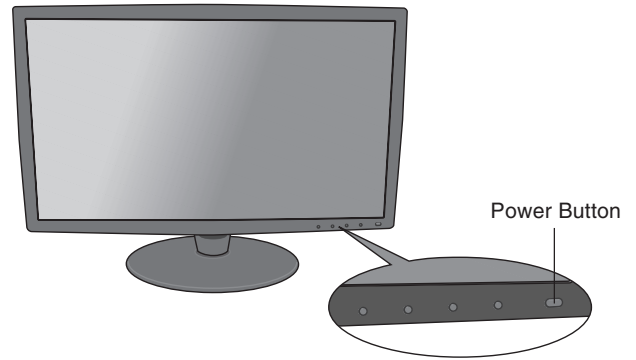

Figure C.1
4. Turn on the monitor with the front power button and the computer (**Figure C.1**).